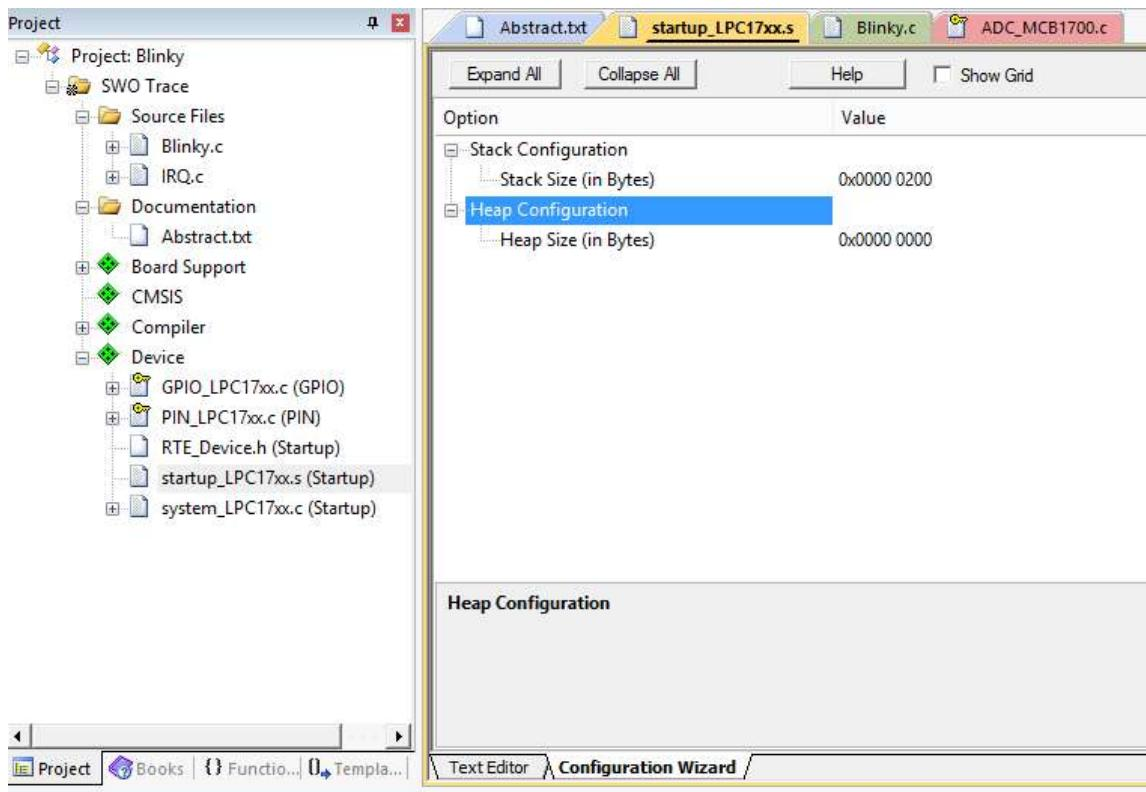

Figure 15: Project Files
- Double click on *startup_LPC17xx.s* to open the editor. Click on the "Configuration Wizard" tab at the bottom of the editor window as shown in Figure 15. The Wizard window converts the "Text Editor" window so that the programmer may view the configuration options more easily. It is possible to adjust the stack and heap sizes of the LPC1768 chip here if necessary.